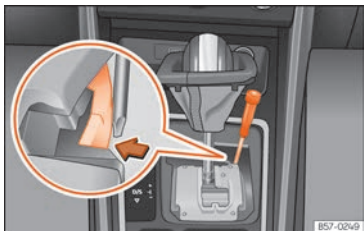

Fig. 262 Gear selector lever: manual release from the parking position.
- Using the flat part of a screwdriver, press the yellow tab sideways and keep it pressed down » » » Fig. 262.